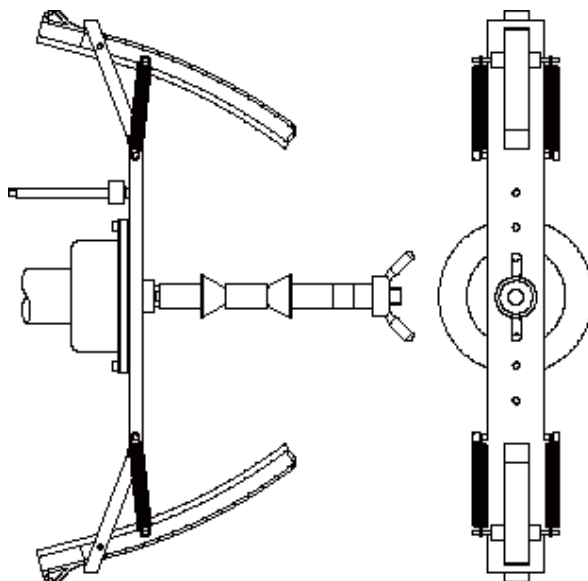

Fig. F4.3 Application of the sample weight on the external side of the flange for motorbikes on the shaft (Cal3 phase)
10. At the end of the launch, the machine will display the writing **C A L h 1 2** . Apply the calibration weight on the external side as shown in Figure F4.3. The calibration weight is to be applied on the hole that has the wording “CAL” marked on it;
part as shown in figure F4.3 and press the [P8]  Start or lower the wheel guard. If the position is significantly different from the vertical one, the machine will reject running the launch by emitting an acoustic error message (triple beep).